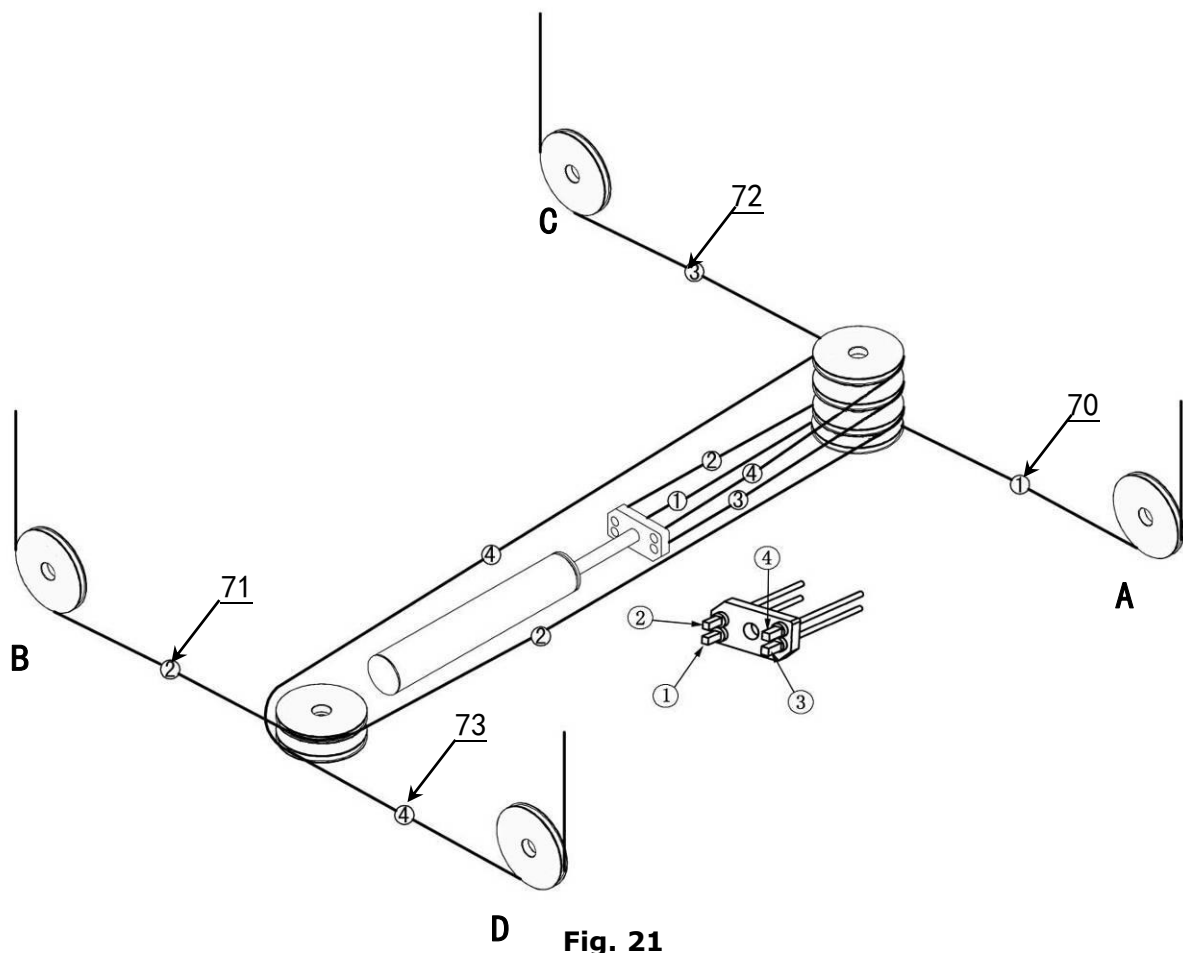

Fig. 21
1. Pass through the cables from the platform to the columns according to the number of the cables (**See Fig. 21**).